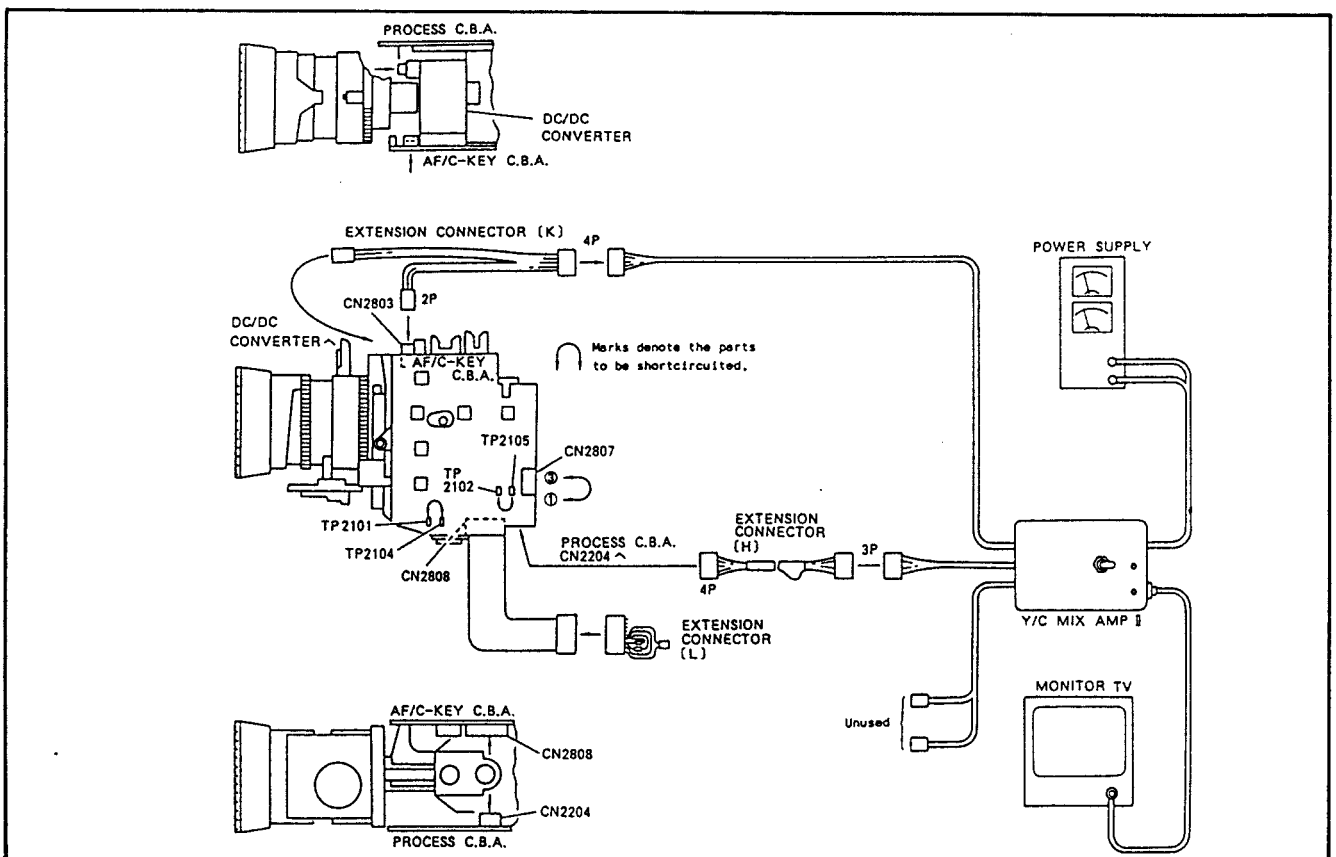

Fig. II-37
- (1) Connect the Y/C mix amplifier II to the E800Hi. (See Fig. II-37)
- (2) Turn the Power Switch on, and set the SW1 to ON (Yx1 IN) side.
- (3) Adjust VR3 so that the SYNC levels of luminance signal (pin 1, CN4) and VIDEO OUT signal at TP1 become the same.